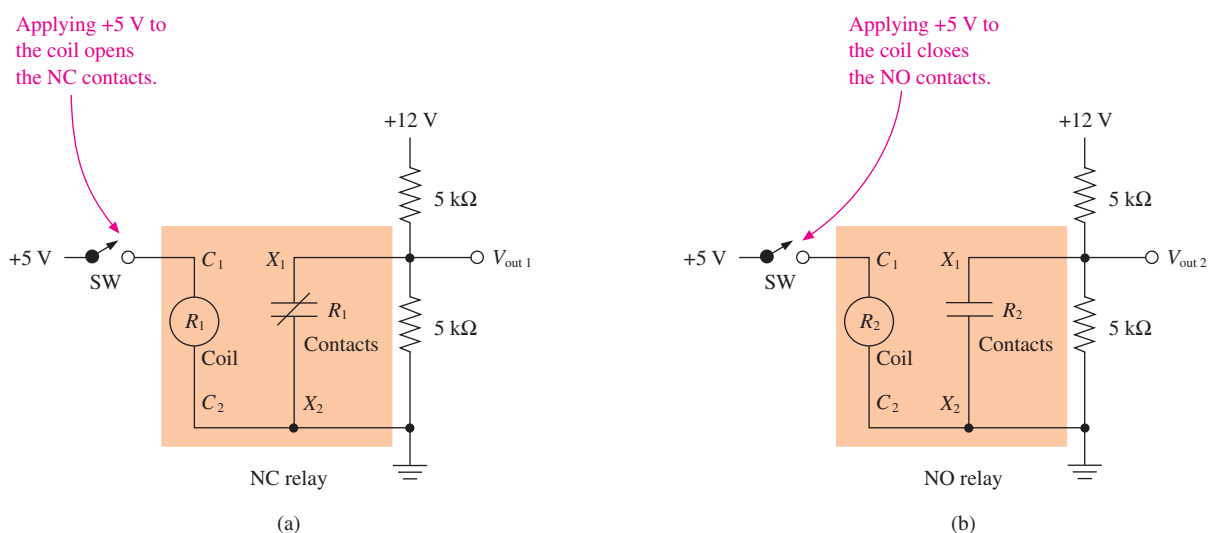

Figure 2–15 Symbolic representation of an electromechanical relay: (a) NC relay used in a circuit and (b) NO relay used in a circuit.
In Figure 2–15 a relay is used as a shorting switch in an electric circuit. The +5-V source is used to energize the coil, and the +12-V source is supplying the external electric circuit. When the switch (SW) in Figure 2–15(a) is closed, the relay coil will become energized, causing the relay contacts to open, which will make V_{out} change from 0 V to 6 V with respect to ground. The voltage-divider equation (see Appendix F) is used to calculate V_{out} as follows:
When the switch in Figure 2–15(b) is closed, the relay coil becomes an **energized relay coil**, causing the relay contacts to close, changing V_{out2} from 6 V to 0 V.
Now, let's go a step further and replace the 5-V battery and switch with a clock oscillator and use a timing diagram to analyze the results. In Figure 2–16, the relay is triggered by the clock waveform, C_p . The diode D_1 is placed across the relay coil to protect it from arcing each time the coil is deenergized. Timing diagrams are very useful for comparing one waveform to another because the waveform changes states (1 or 0) relative to time. The timing diagram in Figure 2–17 shows that when the clock goes HIGH (1), the relay is energized, causing V_{out3} to go LOW (0). When C_p goes LOW (0), the relay is deenergized, causing V_{out3} to go to +5 V (using the voltage divider equation, $V_{out} = [10\text{ V} \times 5\text{ k}\Omega]/[5\text{ k}\Omega + 5\text{ k}\Omega] = 5\text{ V}$).